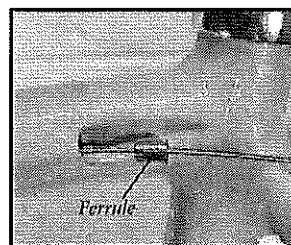

Fig. 22
5. Slide the ferrule up the cable (Fig. 22) and center it in the frame hole.